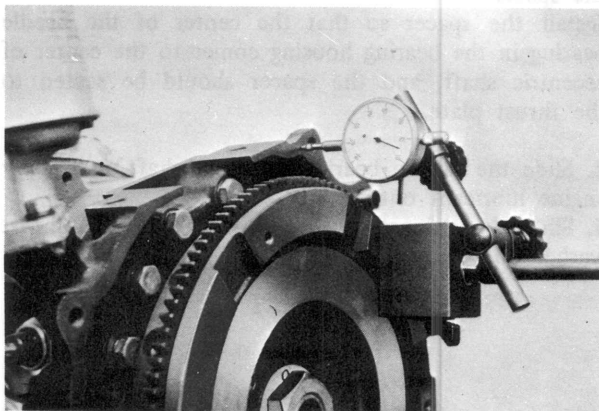

Fig. 1-81 Checking end play
11. Apply a dial indicator onto the flywheel as shown in Fig. 1-81. Move the flywheel fore and aft, and note the reading of the indicator. The standard end play is **0.04 ~ 0.07 mm (0.0016 ~ 0.0028 in)**.